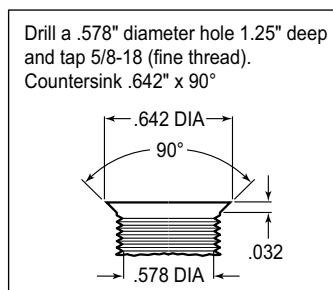
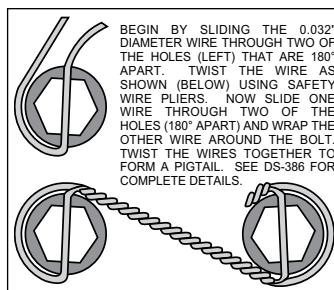

Figure 3. Drill and Tap Detail
Figure 4. Safety Wire Diagram
•**NOTE:** Some spindles in this year range may require the following modifications (reference Figure 1 and Figure 3): Top anchor pin hole (Z) must be drilled and tapped to the dimensions as outlined in Figure 3. The lower bolt hole (Y) in the spindle used to mount the new caliper bracket, and the mating steering arm hole, must be enlarged to .50" by drilling. It is recommended these modifications be performed by a qualified machinist.
•Install wheel studs (12) into the hub (13), Photo 1. Torque to 77 ft-lb. **NOTE:** There are two five lug patterns in the hub (5 x 4.50 and 5 x 4.75). Make sure of the correct hole pattern for the correct wheel application before installing studs into hub.
•Pack the large inner bearing cone (14) with high temperature disc brake bearing grease (available from your local auto parts store) and install into the backside of the hub (13).
•Install the grease seal (15) by pressing into the backside of the hub (13), Photo 2.
•Orient the rotor (16) and the hat (17) as shown in Figure 1 and Photo 3. Attach rotor to hat using bolts (18) and washers (19). Apply red *Loctite*® 271 to the bolt threads and torque to 155 in-lb using a criss-cross pattern. For an added measure of security, the bolts may be safety wired using standard 0.032 inch diameter stainless steel safety wire as shown in Figure 4. Please refer to Wilwood's data sheet DS-386 (available at www.wilwood.com/Pdf/DataSheets/ds386.pdf) for complete safety wire installation instructions.